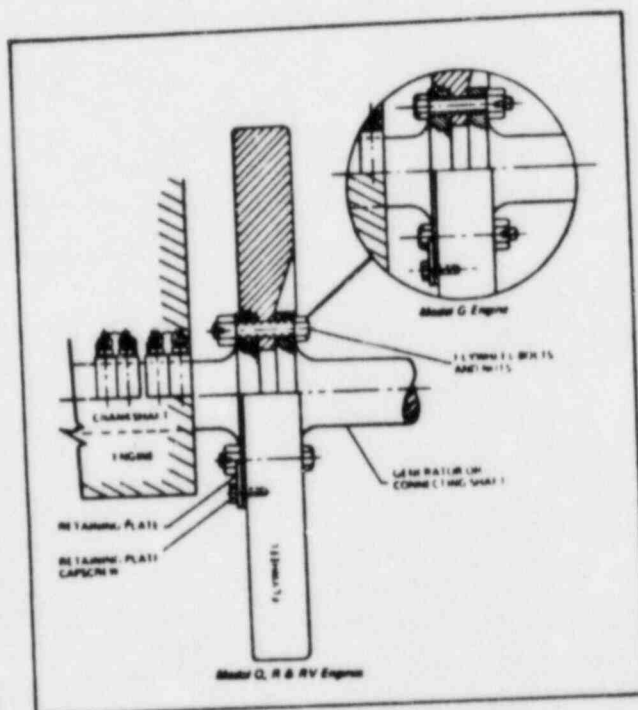

Figure 2-2. Flywheel Mounting
a. Apply a thin coat of preservative to the mating surfaces of the flywheel and the flange, then mount the flywheel on the engine crankshaft flange. Make sure no dirt is allowed between the mating surfaces while the flywheel is being mounted. Install three retaining plates (see figure 2-2) and draw the flywheel up on the flange until it is seated.